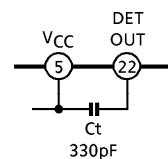

Fig.3 Countermeasures for AM tweets
It is necessary to connect the capacitor  $C_t$  (about 330pF) between  $V_{CC}$  terminal (pin⑥) and DET OUT (pin⑩), in case that AM tweets occurs by pattern layout. (Fig.3)